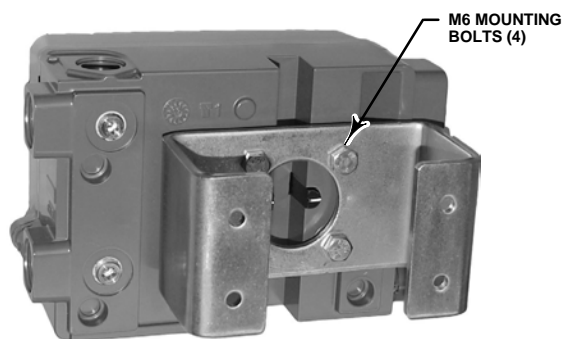

Figure 2-13. For Rotary Actuators (with Typical Mounting Bracket Shown)
The DVC2000 digital valve controller can be mounted to any quarter-turn (rotary) actuator, as well as those that comply with the NAMUR guidelines. A mounting bracket and associated hardware are required. Refer to figure 2-13.
4. Attach the digital valve controller to the mounting bracket using the 4 mounting bolts, as shown in figure 2-13.